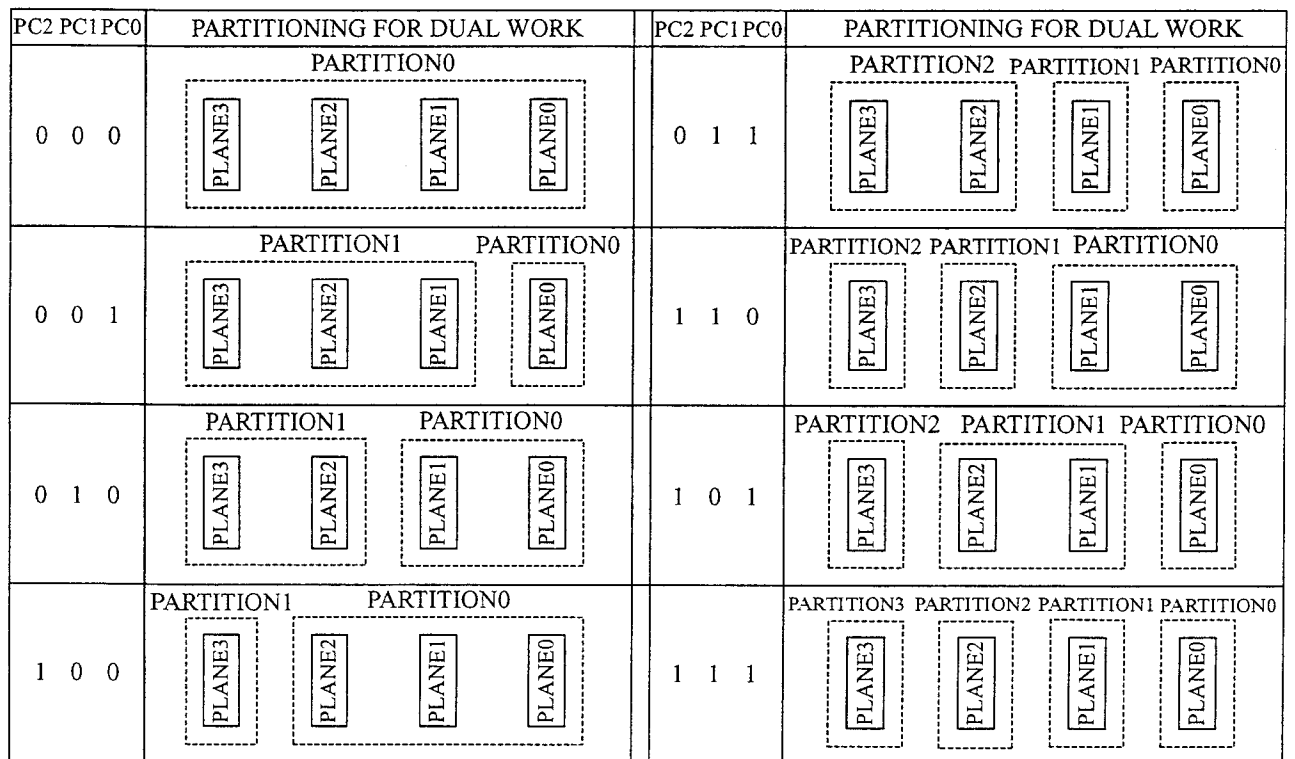

Figure 4. Partition Configuration
<p>PCR.15-11 = RESERVED FOR FUTURE ENHANCEMENTS (R)</p> <p>PCR.10-8 = PARTITION CONFIGURATION (PC2-0)</p> <p>000 = No partitioning. Dual Work is not allowed.</p> <p>001 = Plane1-3 are merged into one partition. (default in a bottom parameter device)</p> <p>010 = Plane 0-1 and Plane2-3 are merged into one partition respectively.</p> <p>100 = Plane 0-2 are merged into one partition. (default in a top parameter device)</p> <p>011 = Plane 2-3 are merged into one partition. There are three partitions in this configuration. Dual work operation is available between any two partitions.</p> <p>110 = Plane 0-1 are merged into one partition. There are three partitions in this configuration. Dual work operation is available between any two partitions.</p> <p>101 = Plane 1-2 are merged into one partition. There are three partitions in this configuration. Dual work operation is available between any two partitions.</p>	<p>111 = There are four partitions in this configuration. Each plane corresponds to each partition respectively. Dual work operation is available between any two partitions.</p> <p>PCR.7-0 = RESERVED FOR FUTURE ENHANCEMENTS (R)</p> <p>NOTES:</p> <p>After power-up or device reset, PCR10-8 (PC2-0) is set to "001" in a bottom parameter device and "100" in a top parameter device.</p> <p>See Figure 4 for the detail on partition configuration.</p> <p>PCR.15-11 and PCR.7-0 are reserved for future use and should be masked out when polling the partition configuration register.</p>